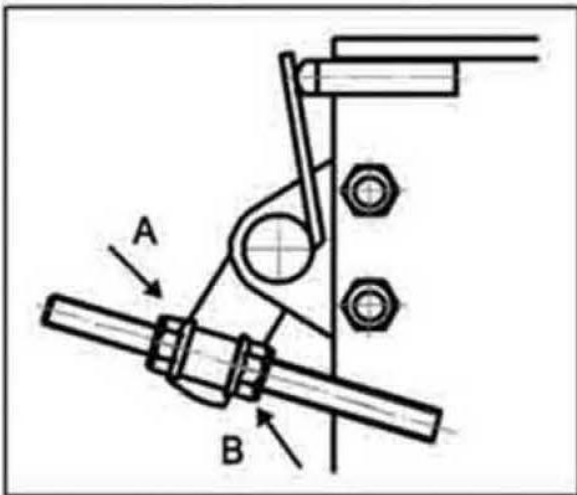

Figure 11
4. Loosen tracking adjustment nut "A" and "B" on the left side of the machine until the LH wheels starts to creep forward. Make a note of the position of the adjustment nut "A" (figure 11).
3. For the right side, repeat step 5. (See figure 11)